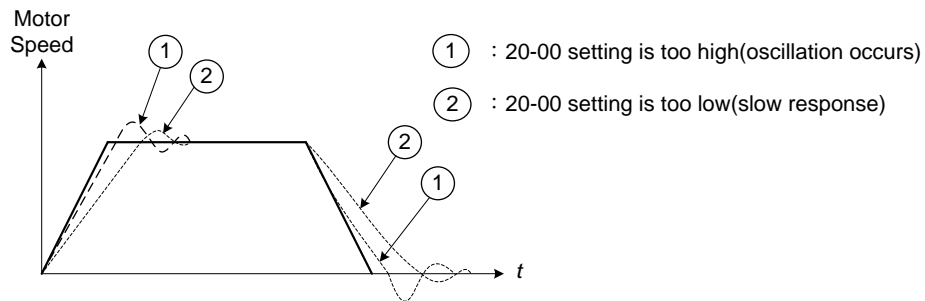
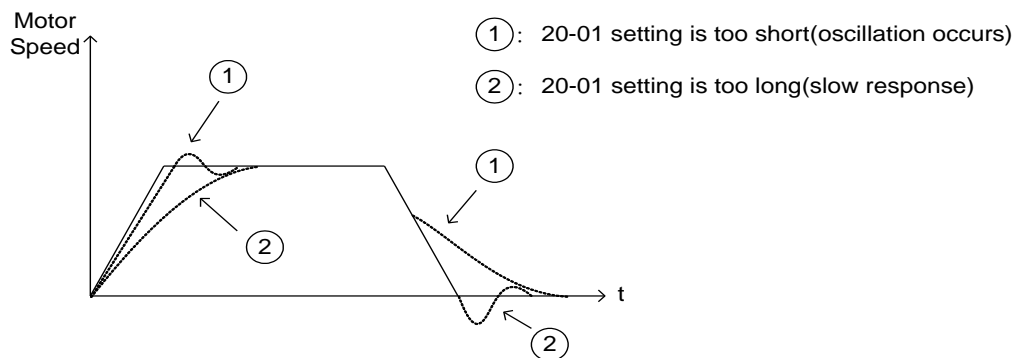

Figure 4.3.97 System response of ASR proportion gain
Figure 4.3.98 The response of ASR integral time
- Integral control makes the motor speed react as possible reach to the target speed but may cause instability. Refer to Fig. 4.3.97 & Fig.4.3.98.
Use parameter 20-00 and 20-02 to adjust the speed response for each cycle. Tuning the settings of 20-00, 20-02 can increase system response, but may cause system instability. See Fig.4.3.97.
Decreasing the torque compensation value can reduce the response of the ASR during a momentary change in load. Refer to Fig. 4.3.97 & Fig. 4.3.98.